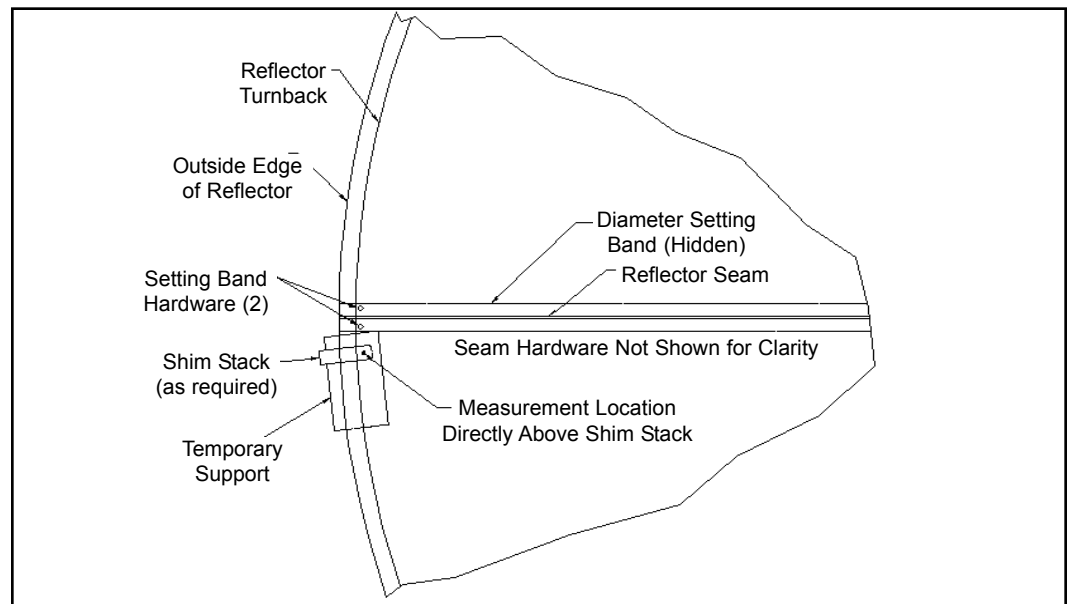

Figure 40
Step 5 Temporary supports should be positioned as shown in Figure 40, close to but not interfering with diameter setting bands.
Step 6 Referring to Figure 40, mark the measuring location at each of the six temporary support locations with a small dot (use felt tip marker) to be used as reference point in subsequent measurements.
Step 9 Shim each location as required to level the reflector (see Figure 40).
Step 11 Continue to measure, record, compare and shim any low temporary support location points until all (6) temporary location points are within 0.030 inches (0.75 mm) elevation from each other.